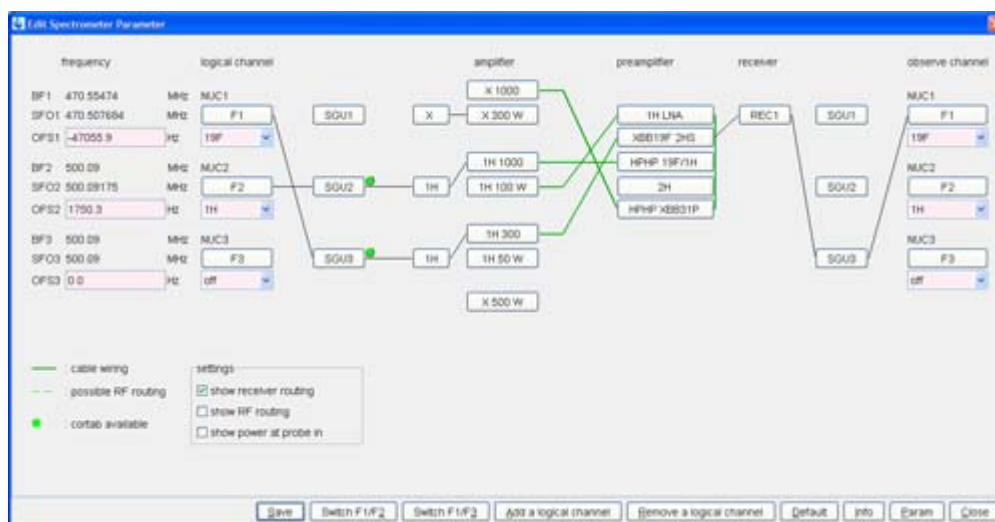

Figure 3.3 Example of routing for *fhdp* experiment.
4. Check for correct routing on the 1 kW amplifiers. If the routing is incorrect, click the **default** button in the routing window, then change the **^{19}F routing goes through SGU3** (see Figure 3.3).